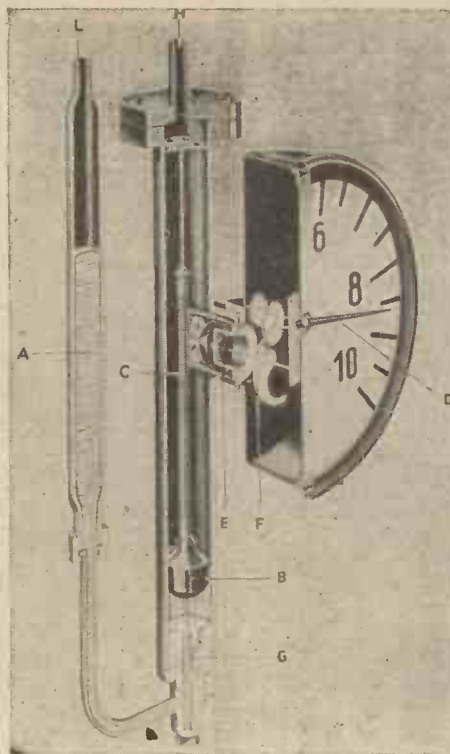

Fig. 5. Section through float-type flowmeter.
In the Manometer, shown in Fig. 5, the meter body is in effect a U tube made from solid drawn and welded steel parts, containing a quantity of mercury (A). The points (L) and (H) are connected to the pipe line on either side of the orifice— (H) being the high pressure side.